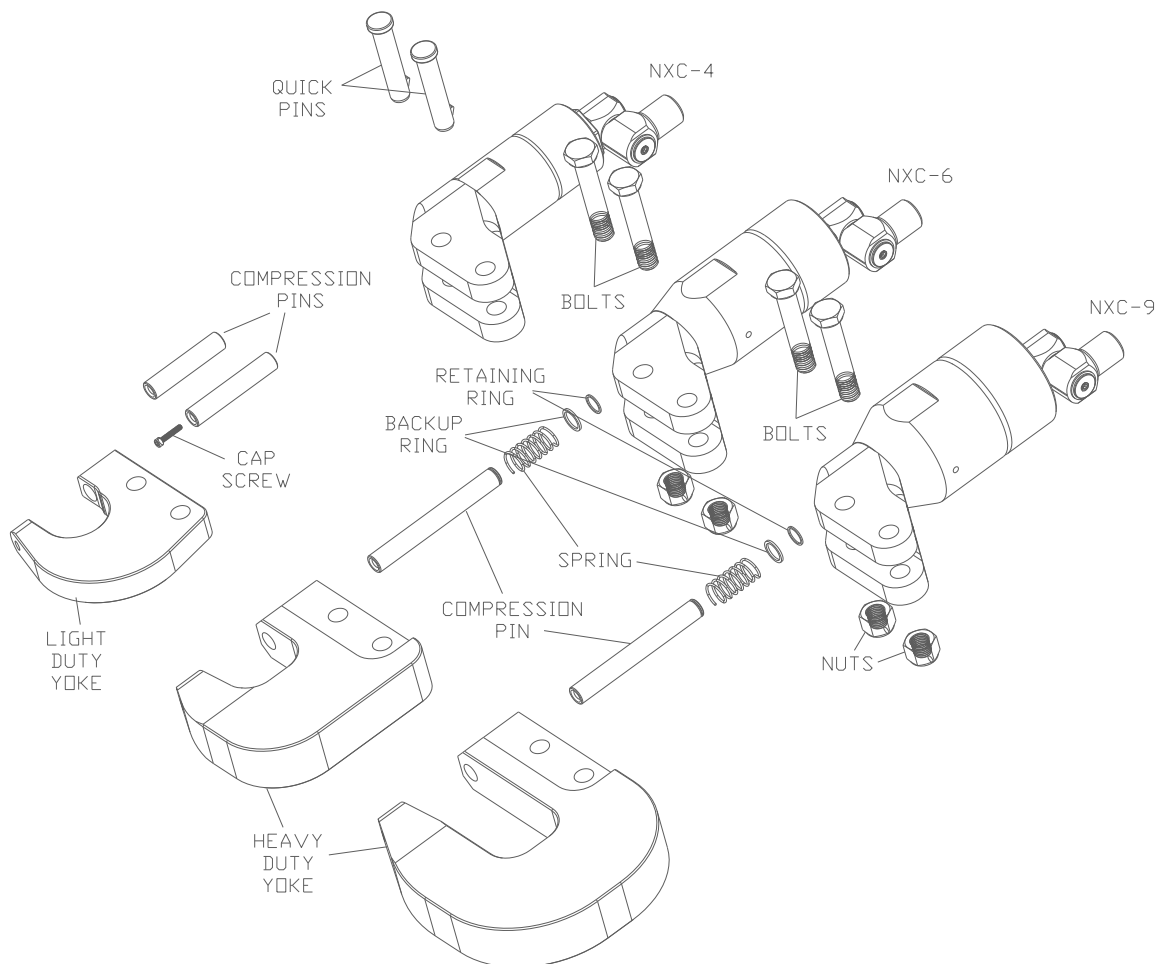
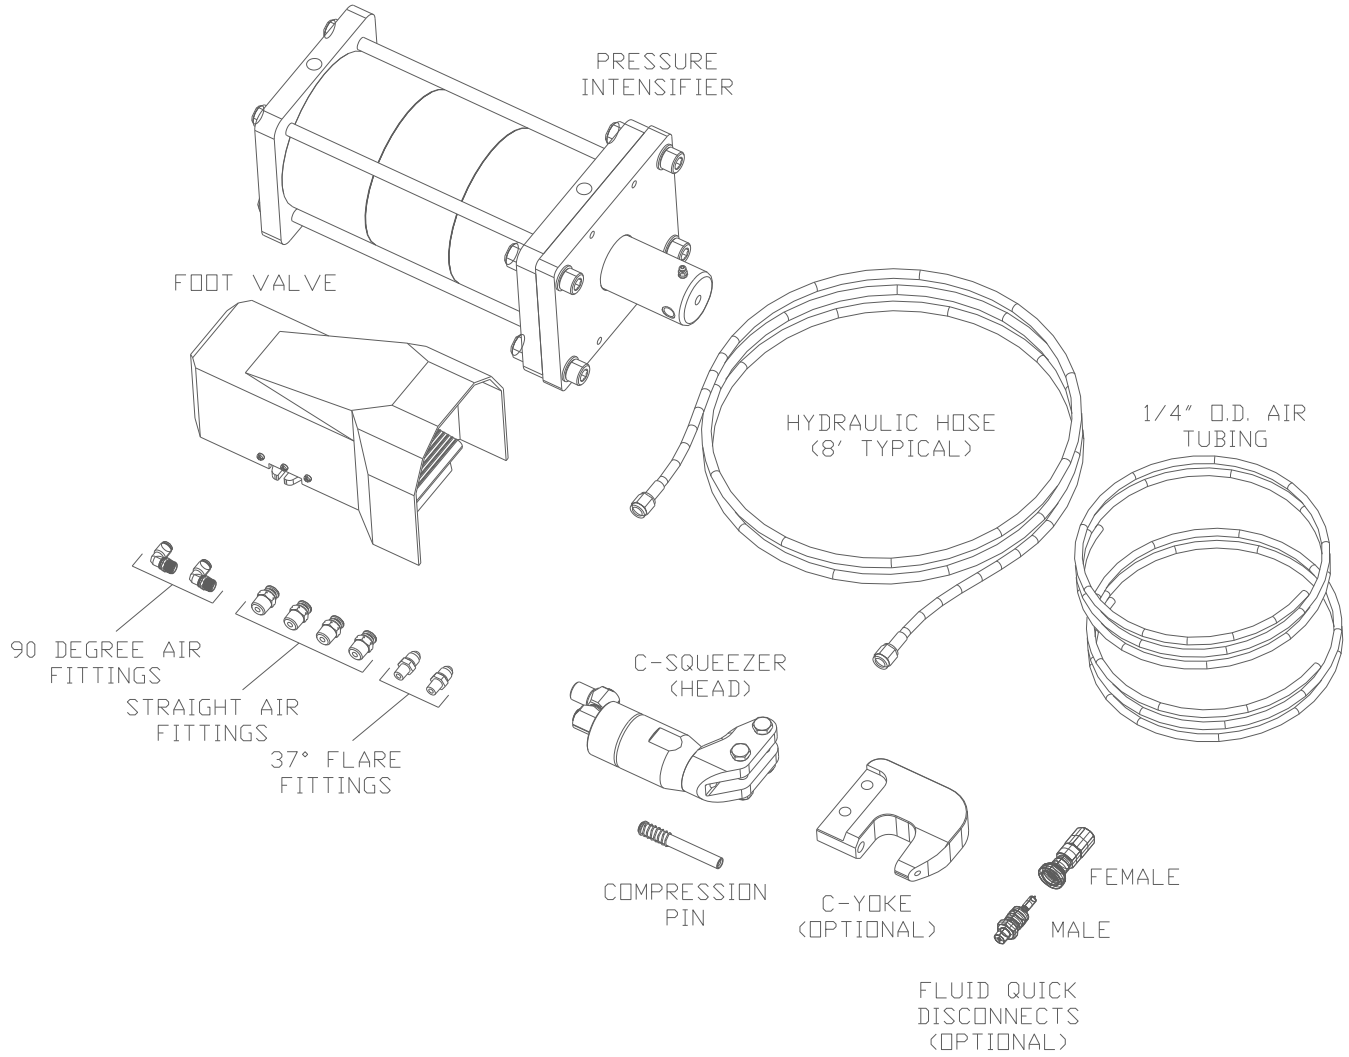

FIGURE 6 – YOKE / COMPRESSION PIN / BOLT INSTALLATION
FIGURE 7 – SYSTEM COMPONENTS
- 4.4 Refer to Figure 6 for components included with the system, and Figure 7 for the system setup.